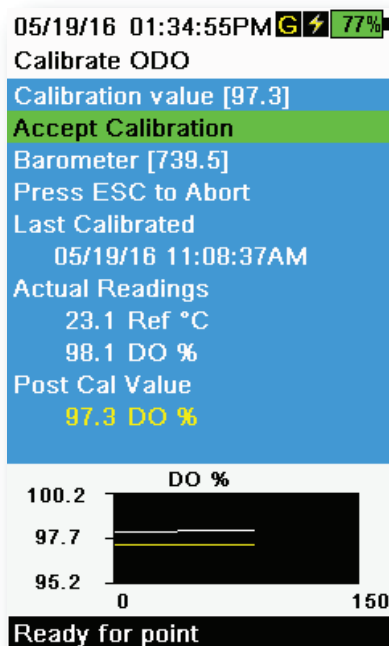

Figure 48 Calibrate ODO %
6. Observe the actual measurement readings for stability (white line on graph shows no significant change for 40 seconds), then select **Accept Calibration** (Figure 48). "Calibration successful!" will be displayed in the message area.